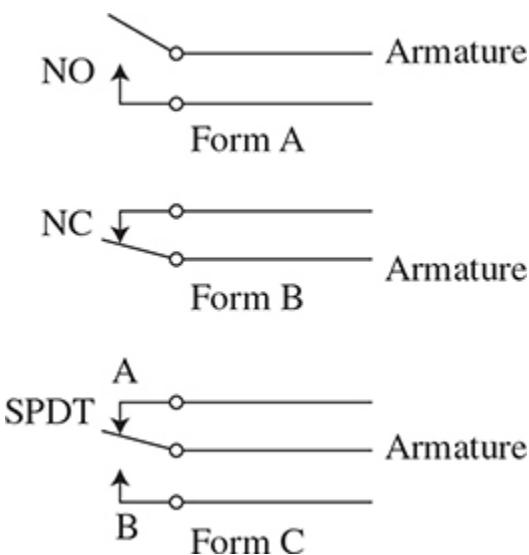

Figure 10.4 Standard relay contact designations.
Like switch contacts, relay contacts come in many forms, such as SPST, SPDT, DPDT, etc. However, you will also see relay contacts referred to as shown in Fig. 10.4. Form A is the same as a SPST with normally open (NO) contacts deenergized.